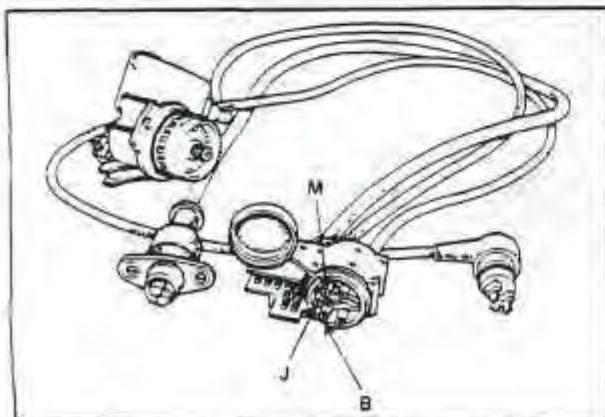

Fig. 22 GOVERNOR COMPUTER ASSEMBLY
11. Disconnect the wiring tie straps and remove the governor computer assembly and wiring harness. *Fig. 22*